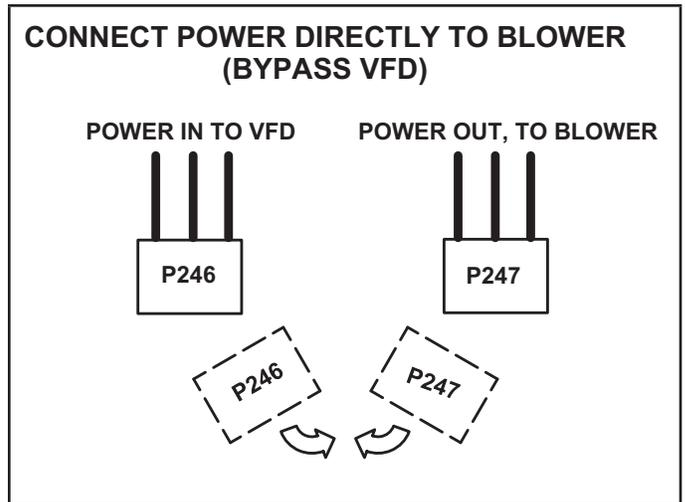

FIGURE 36
- 4 - Connect P246 to P247. See FIGURE 36.